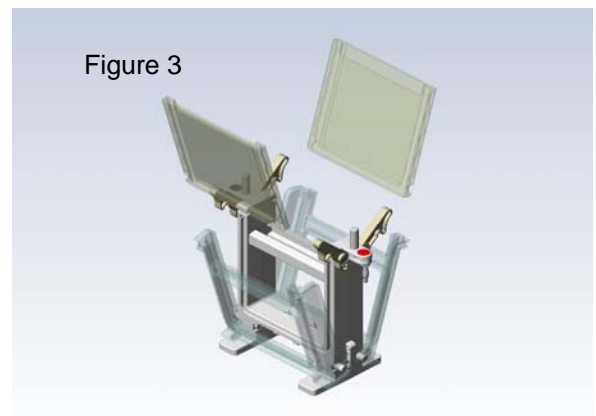

Figure 3
4. Slide pre-cast gel cassette into the core assembly with the notched plate facing in towards the upper buffer reservoir as shown in figure 3.